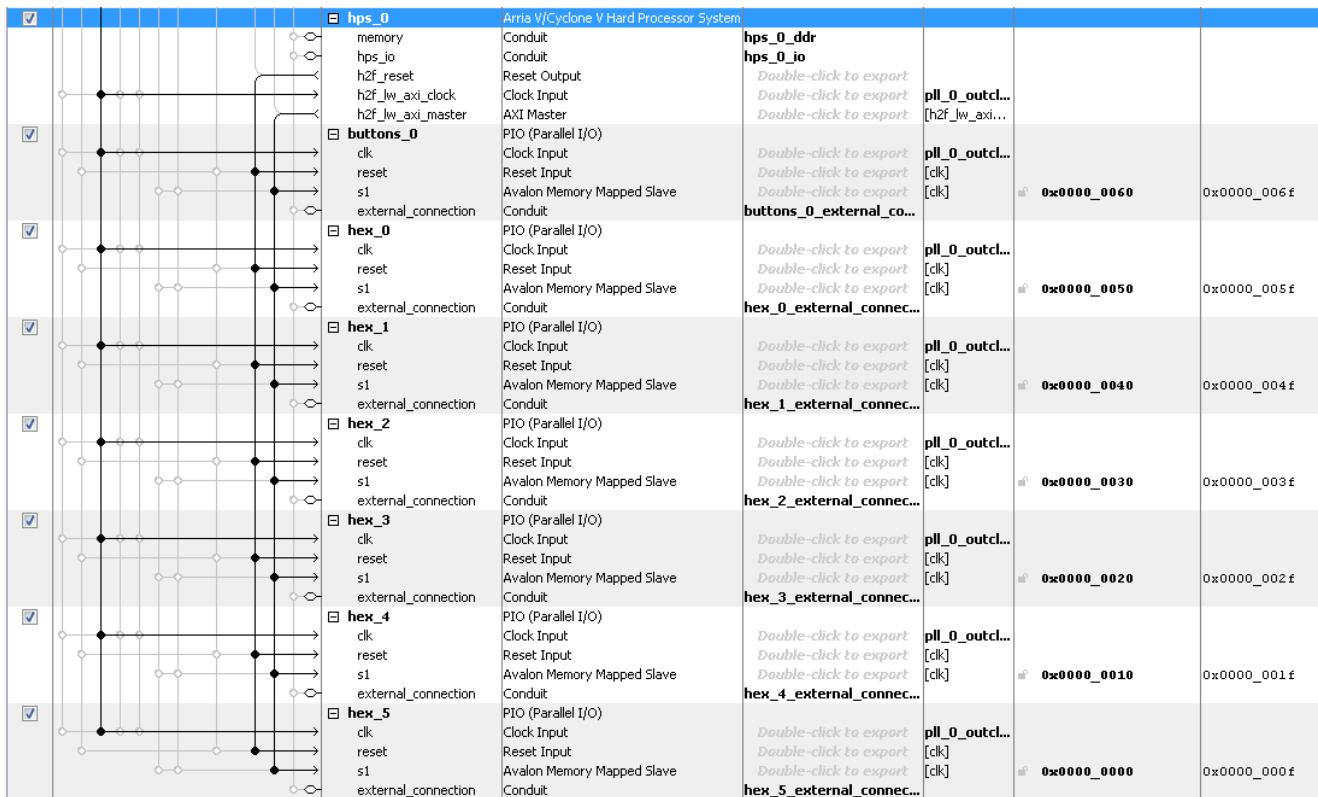

Figure 9-14. Adding Buttons and 7-segment Displays to the Lightweight HPS-to-FPGA Bridge
30. Connect the system as shown in Figure 9-14 below. Notice that we use “hps\_0.h2f\_reset” as the reset signal for the components connected to the HPS. This is a design choice so we can separately reset FPGA-only peripherals, and FPGA peripherals connected to the HPS.